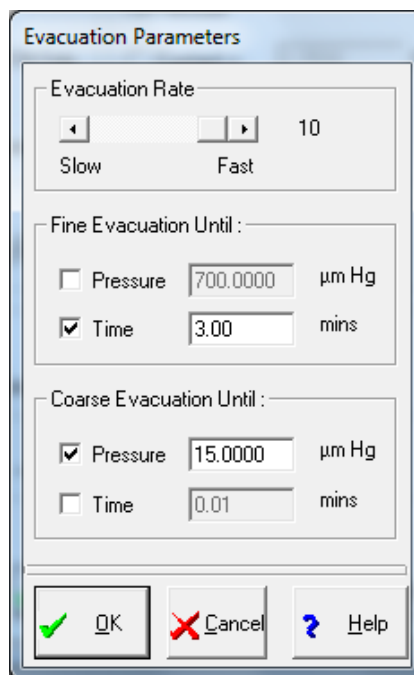

Figure 18. Low pressure evacuation parameters dialog box
- When all of the parameters from **Run Mode** are satisfactory, click **OK** to return to the **Data Acquisition** dialog box or click **Evacuation Parameters** to continue. This will bring up the **Evacuation Parameters** dialog box shown in Figure 18.